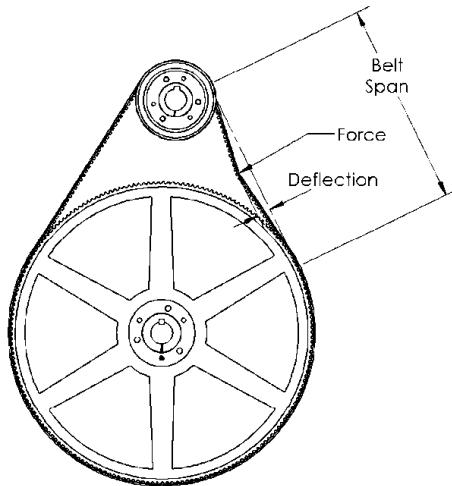

Figure 11: Belt Installation/Adjustment
11. From **Figure 11** determine the deflection required for the belt. The deflection height is $1/64"$ per inch of span (15.6mm/m). For example, a 32" span length requires a deflection of $32/64"$ or $\frac{1}{2}"$. To measure the deflection height, place a straightedge from sprocket to sprocket on top of the belt or wrap a string or steel tape around the sprockets on top of the belt.
13. Using a spring scale, apply a perpendicular force to the belt at the mid-point of the span as shown in **Figure 11**. For belts wider than 2 inches (50 mm), it is suggested that a rigid piece of key-stock or something similar be placed across the belt between the point of force and the belt to prevent distortion. Compare this deflection force value to that found in Table 6 and adjust the tension accordingly.